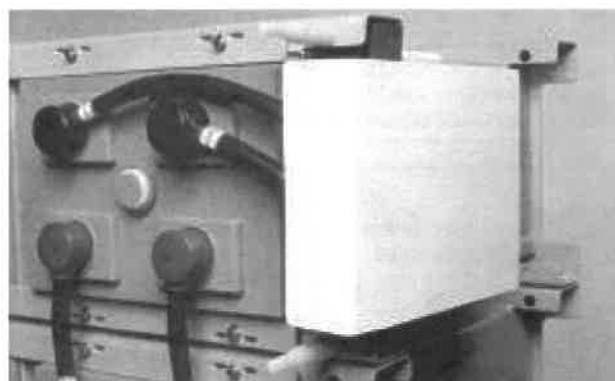

Figure 9: Outer shield attached to the main terminal take-offs
- d) attach the outer shield to both the positive and negative main terminal take-offs, see Fig 9.